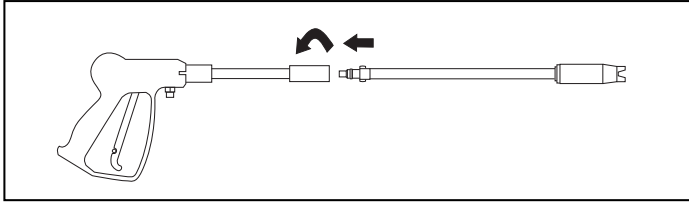

Figure 8 - Gun/Lance Connection
1. Insert lance into the gun and turn clockwise to positive stop as shown in Figure 8.